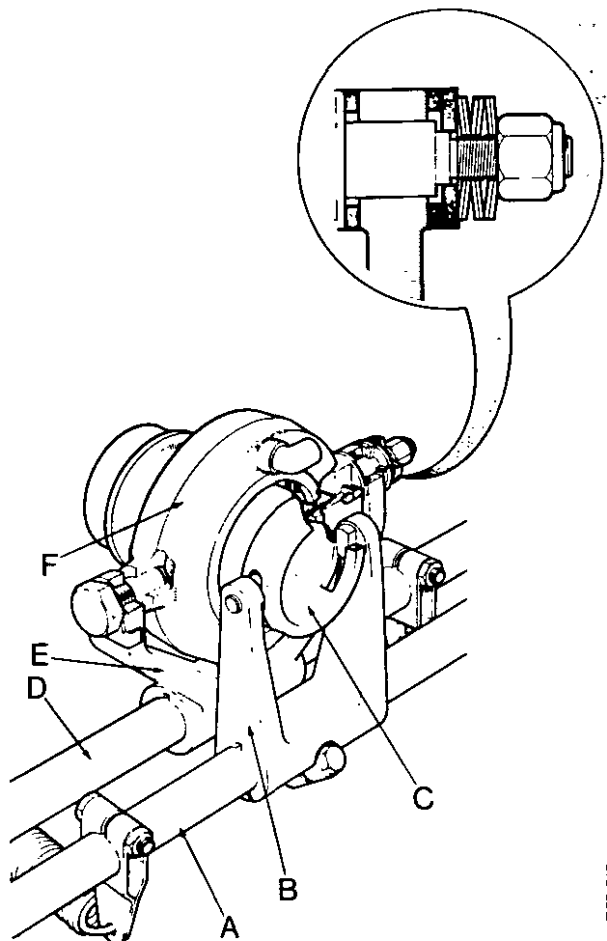

FIGURE 27 CLUTCH RELEASE MECHANISM
2. Make sure that the transmission clutch release bearing sleeve is correctly engaged in the fork. See figure 27.